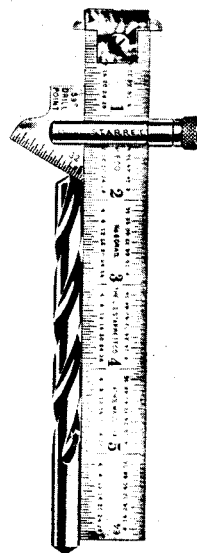

Fig. 27-10. Checking a drill point with a drill-point gage.
2. During the sharpening use a drill-point gage (Fig. 27-10).